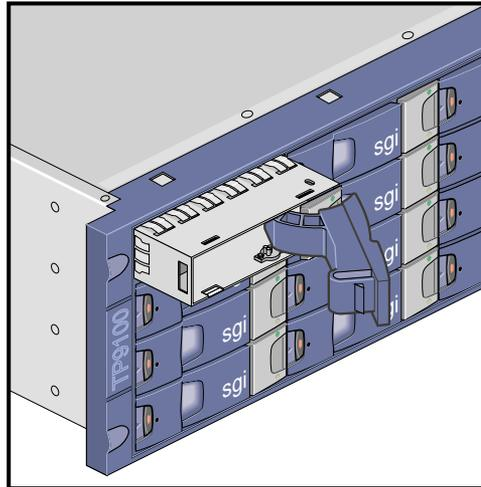

Figure 14-21 Removing Drive Carrier Module
4. Open the handle by pressing the latch on the module handle towards the right. Then gently slide the module out of the enclosure approximately 1 inch (25 mm), and wait 30 seconds for the drive to stop spinning. See Figure 14-21.